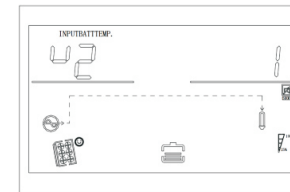

Figure 1-10 Display page 8
**Display page 8:** Software version displays the MPPT system software version, as shown in Figure 1-10 (Software Version VER 34)